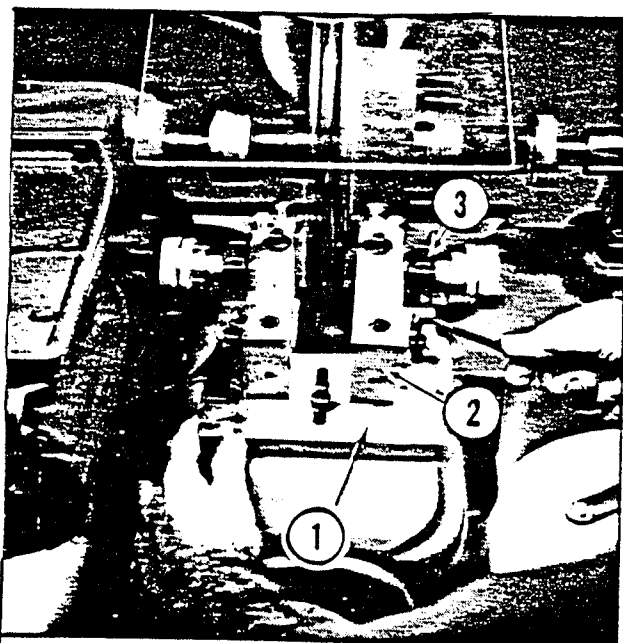

Figure 24. Tool Holder Plate Adjustment
2. Push tool holder plate forward, toward the arbor and retighten the three allen head screws, Figure 24.